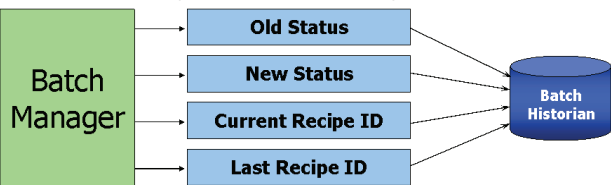

Figure 7. Equipment History
- Equipment events occur each time the status of a piece of equipment changes, and the Batch Manager captures and logs the change to the Batch Historian (refer to Figure 7). All these events are stored with the old status, new status, current recipe ID, and last recipe ID.